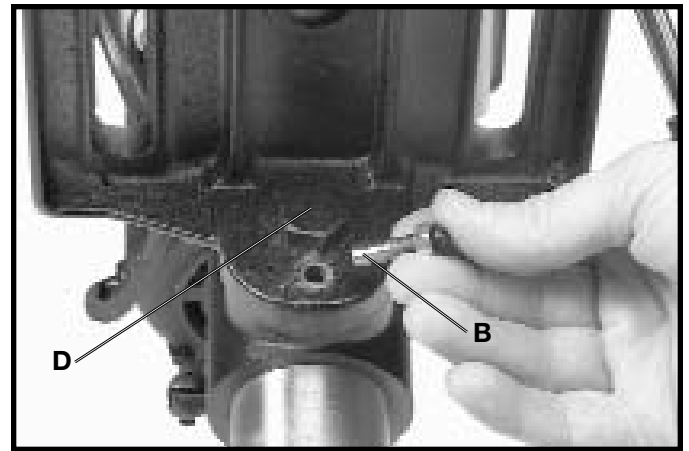

Fig. 22
3. Fig. 22, illustrates the table alignment pin (B) removed. Loosen table locking bolt (D), tilt table to the desired angle and tighten bolt (D). When returning table to the level position, replace table alignment pin (B). This will automatically position the table surface at 90 degrees to the spindle.